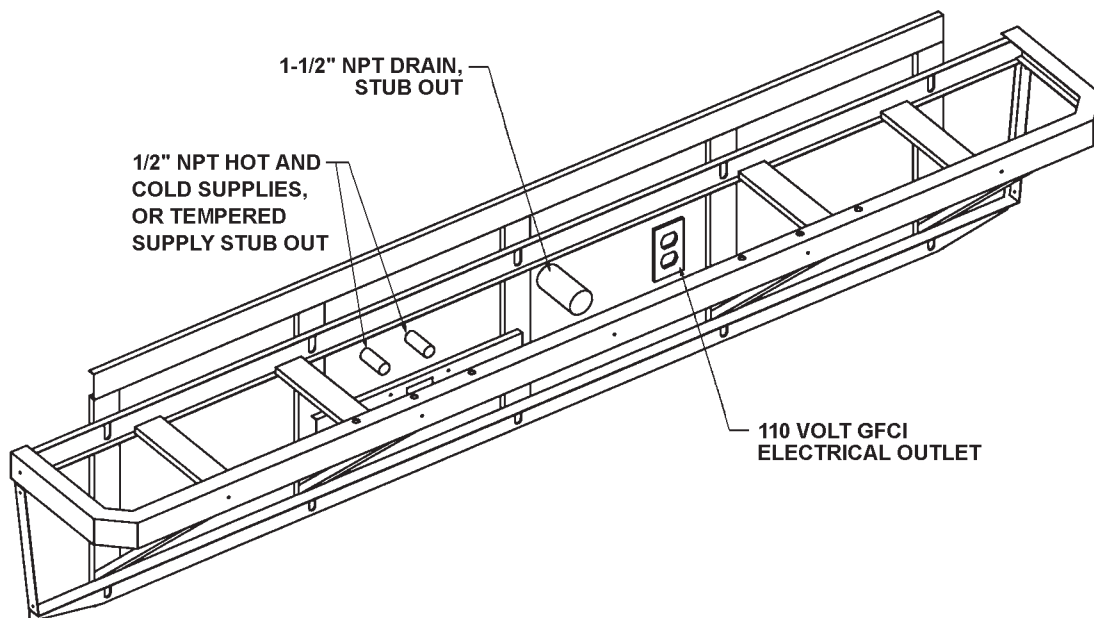

Figure 2
3. Install the 110 volt GFCI electrical outlet per local code at the location shown in Figure 2 on page 6.